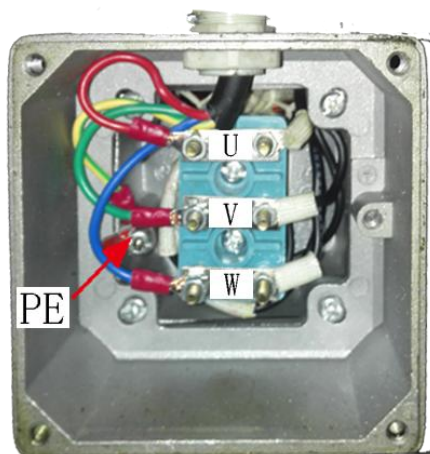

Fig 12
- Wiring method for the three-phase motor is as shown below (Fig. 12).